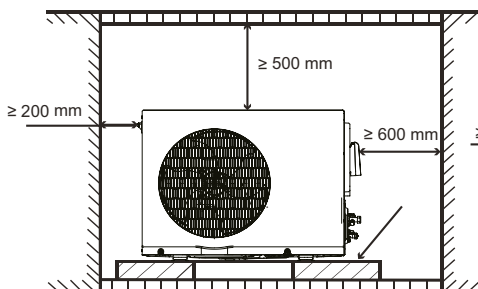
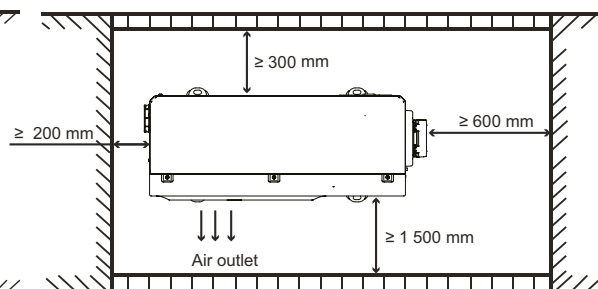

Fig. 3-1
Fig. 3-2
3.2.1 Outdoor unit installation and maintenance space, see Fig 3-1 and Fig 3-2 . (Unit: mm)